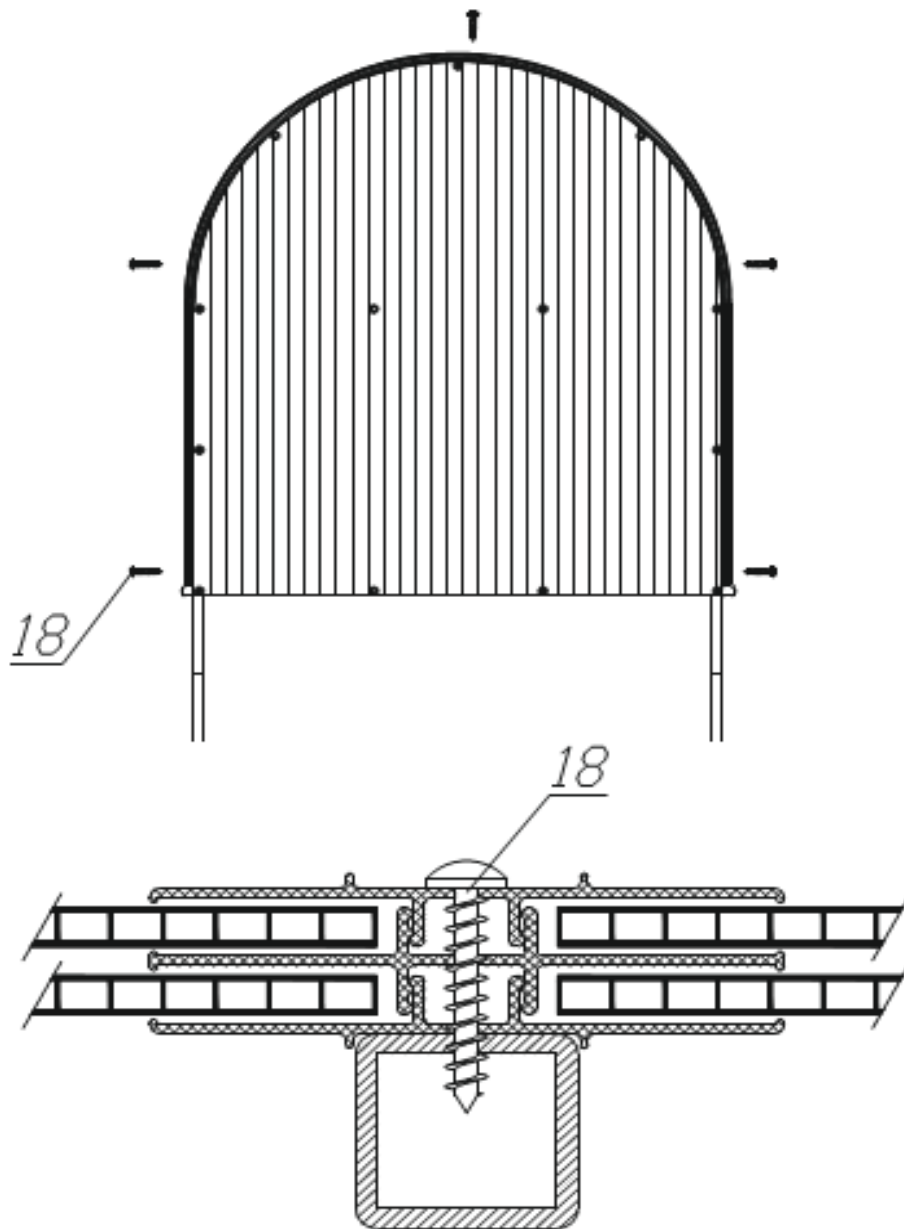

Fig. 17
6.3 Fasten the profiles with the 4.2x19 self-tapping screw (Position 18) at the points indicated in Fig. 17.